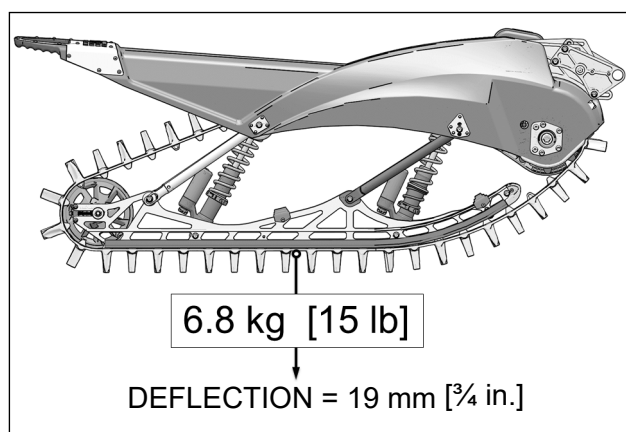

Figure 44
- The table below shows the force applied and the deflection which must/ occur when track tension is correctly set. Refer also to Figure 44.
- Check Track tension at mid-point between the two lower shock absorber mount shafts. Figure 44.